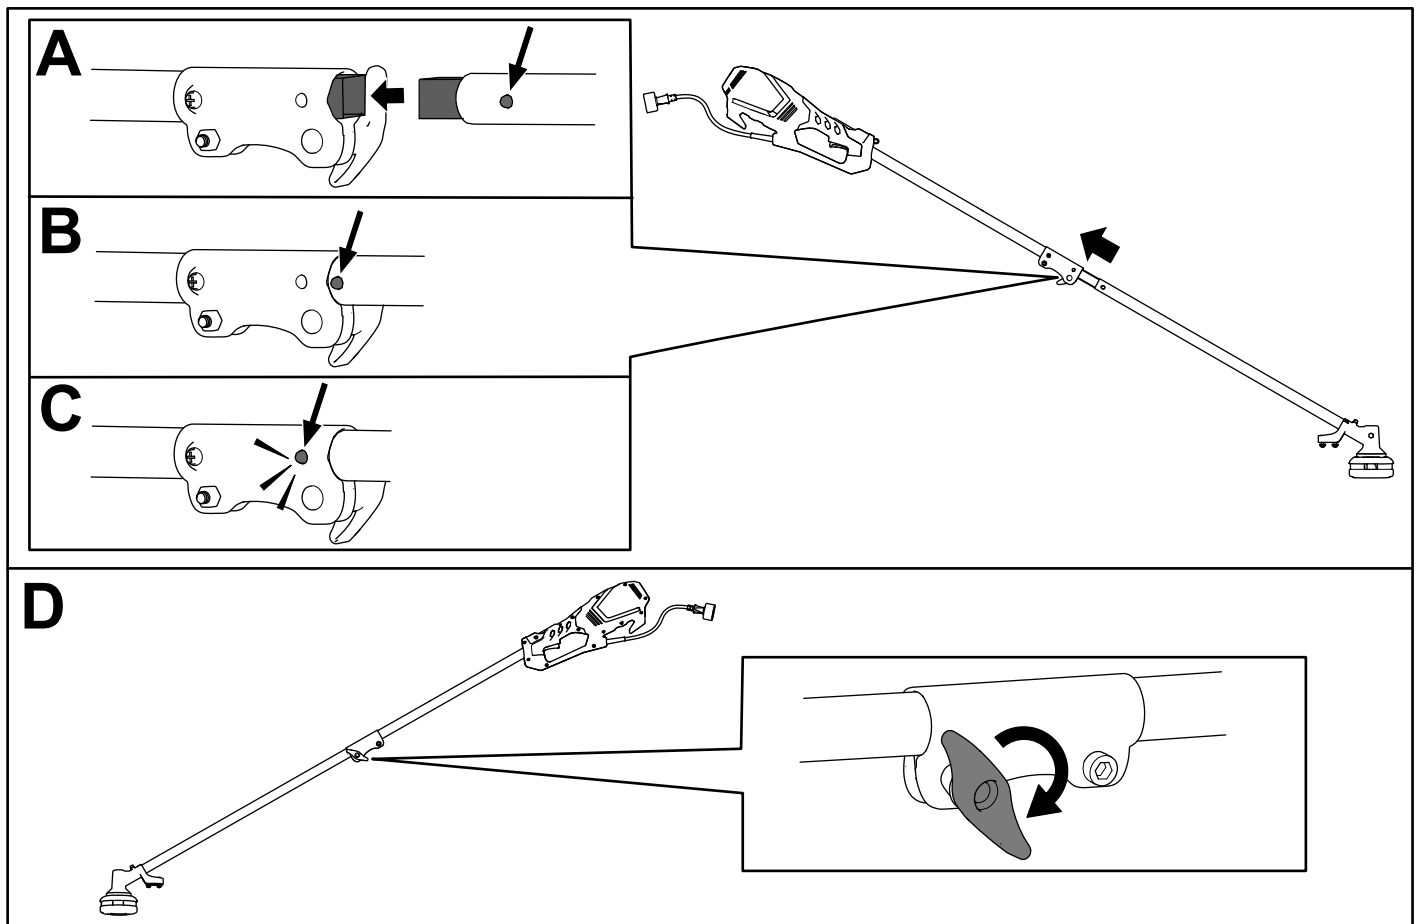

Figure 1
1. Install the square shaft of the string trimmer attachment into the square shaft of the power head (A of Figure 1).
2. Align the locking button on the lower shaft with the slotted hole on the upper shaft and slide the 2 shafts together (B and C of Figure 1).
**Note:** The locking button clicks into the slotted hole when the shafts are secured (C of Figure 1).
3. Using the screw-handle, tighten the screw on the shaft connector until it is secure (D of Figure 1).